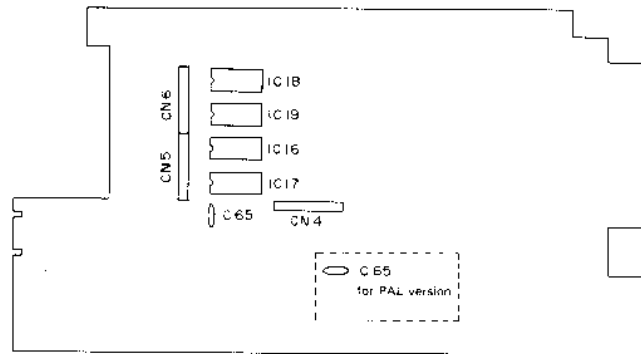

Figure 3-3. Main PCB
1. Remove the top cabinet as described in 3.1. Remove four ICs (IC16 - IC19) from the IC sockets of the PCB (Figure 3-3), unsolder C65 82 pF ceramic capacitor and remove it.